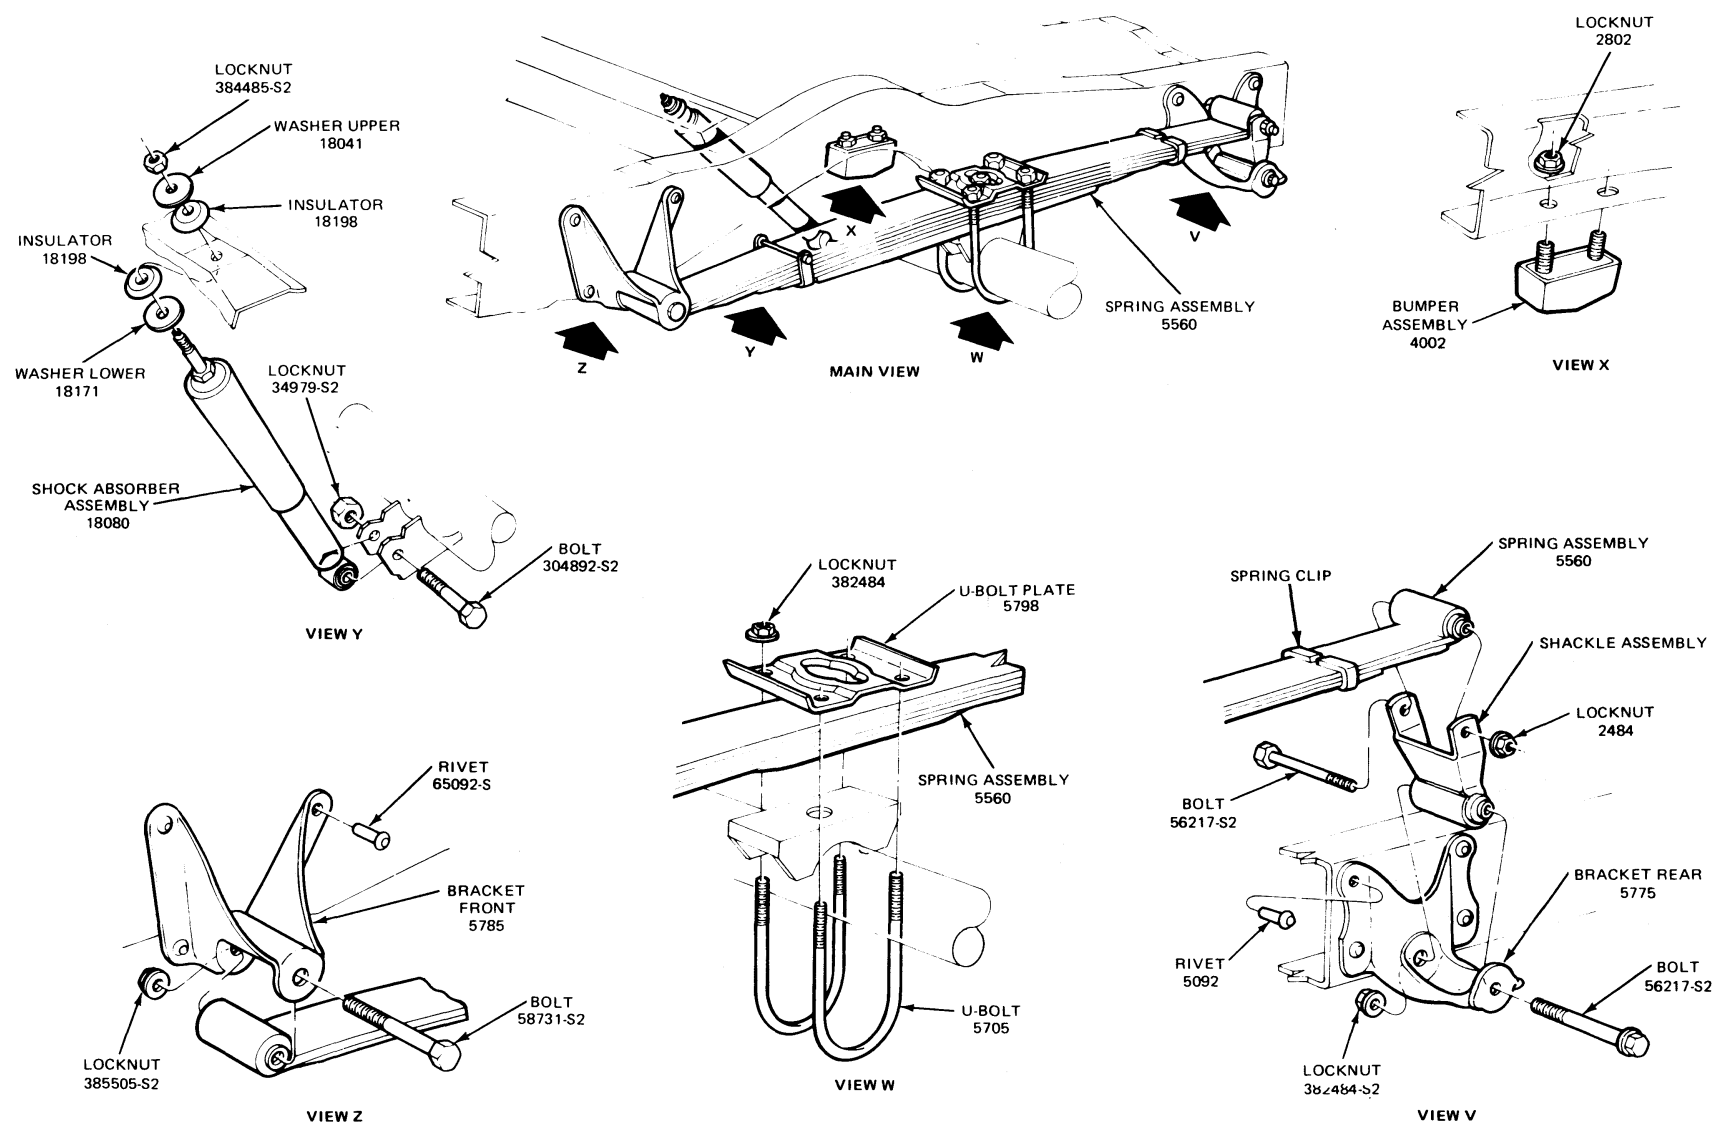

FIG. 5 Rear Spring Installation—E-100—E-150
Semi-elliptic, leaf-type springs are used for the rear axle suspension (Figs. 5 and 6). The front end of each spring is attached to a bracket on the frame side member. The rear end of each spring is attached to a bracket on the frame side member with a shackle. Each spring is attached to the axle with two U-bolts. A spacer is located between the spring and the axle to obtain a level ride position.
2. Disconnect the lower end of the shock absorber from the bracket on the axle housing (Fig. 5).
7. Assemble the front eye of the spring (Fig. 5) to the front bracket with the front mounting bolt and nut. Do not tighten the nut.
10. Raise the axle with a floor jack or hoist until the vehicle is free of the stands. Connect the lower end of the shock absorber to the bracket on the axle housing (Fig. 5).